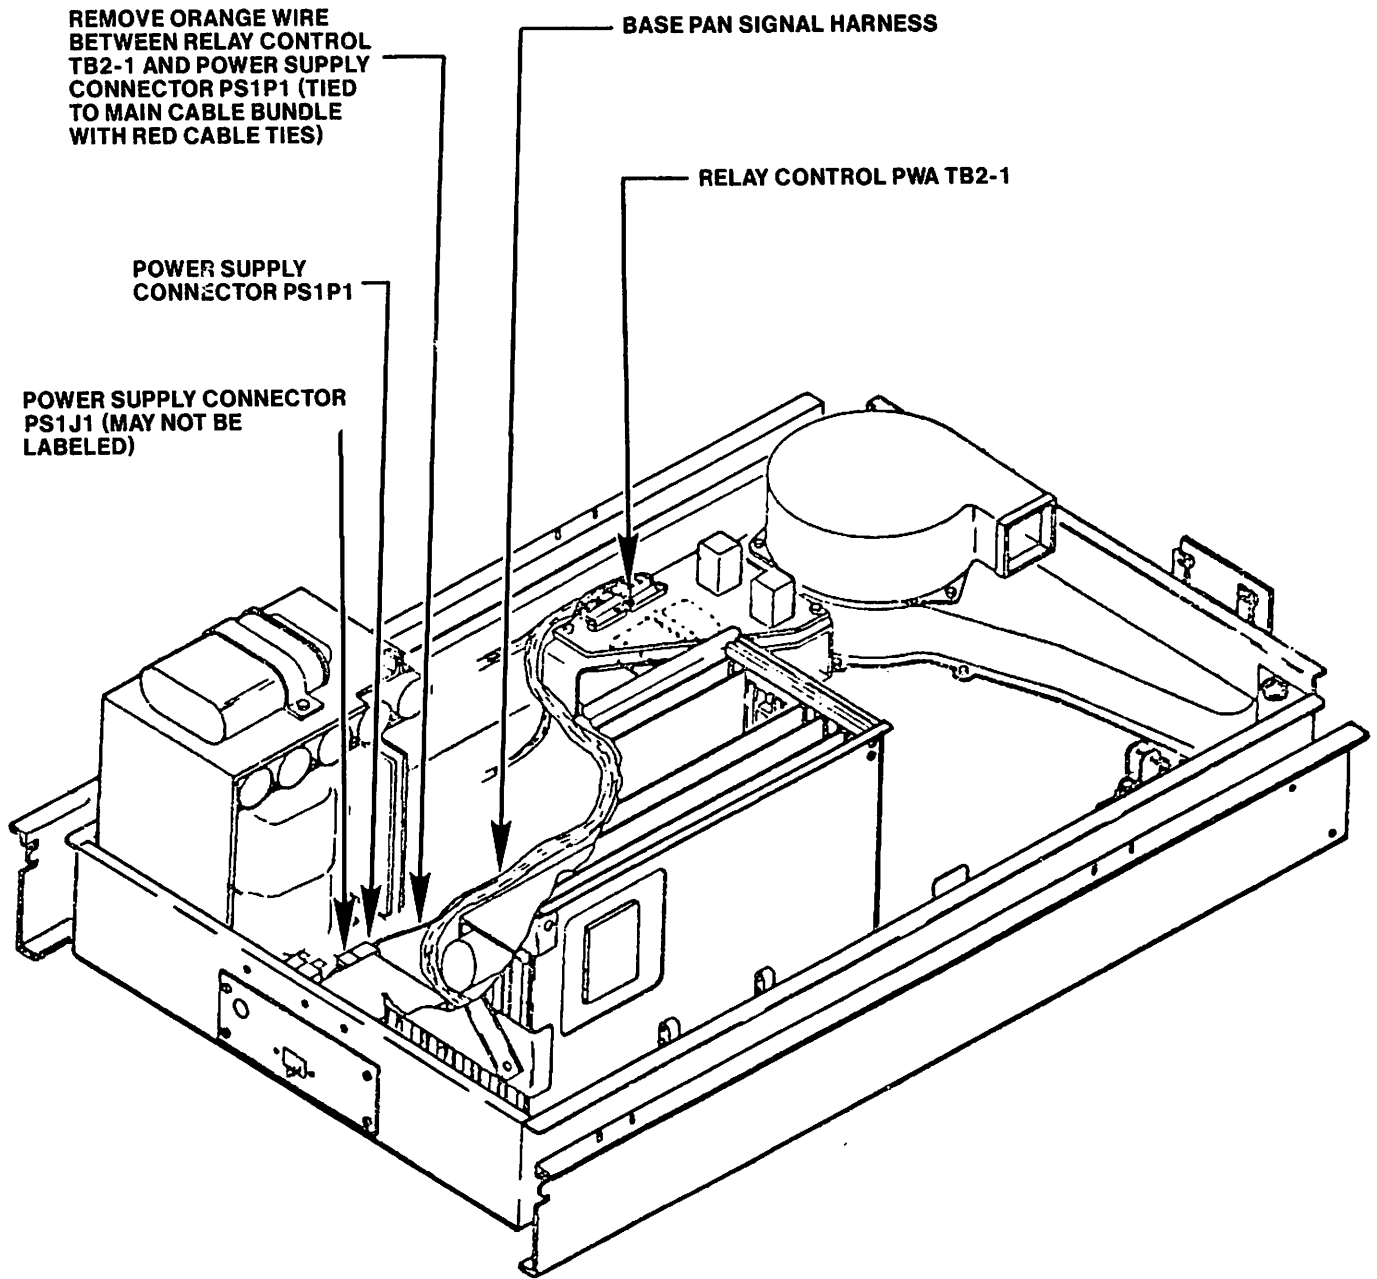

Figure 1. Base Pan Cutaway Showing Base Pan Signal Harness and Power Supply Connector PS1P1
1. Position new power supply in CMD unit in approximate position shown in figure 1.